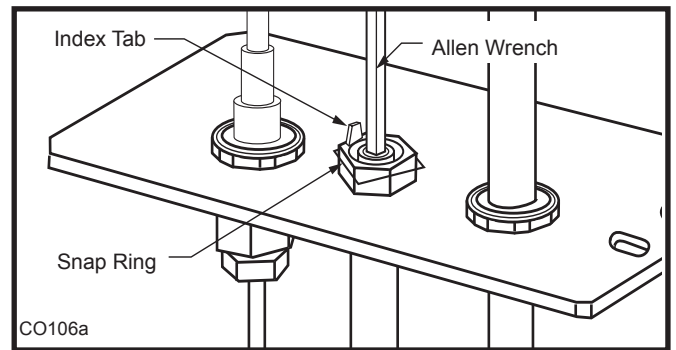

Fig. 31 Remove pilot orifice.
- Remove pilot orifice with allen wrench. (Fig. 31)